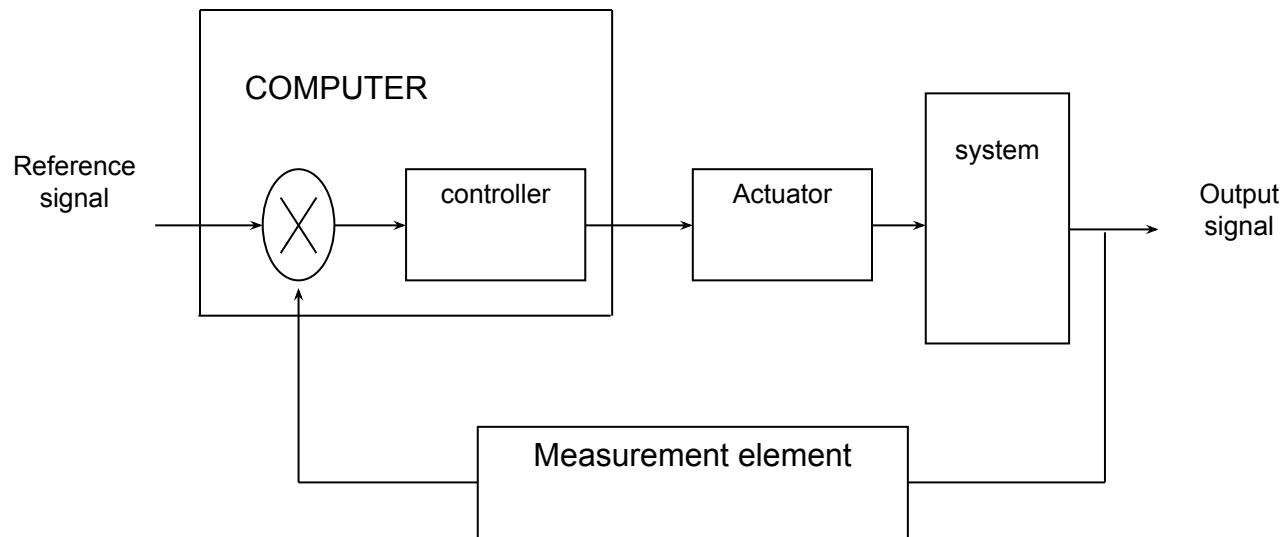

Fig. 5: Block Diagram of Closed Loop System
- This system can be represented by the block diagram as in figure 5.